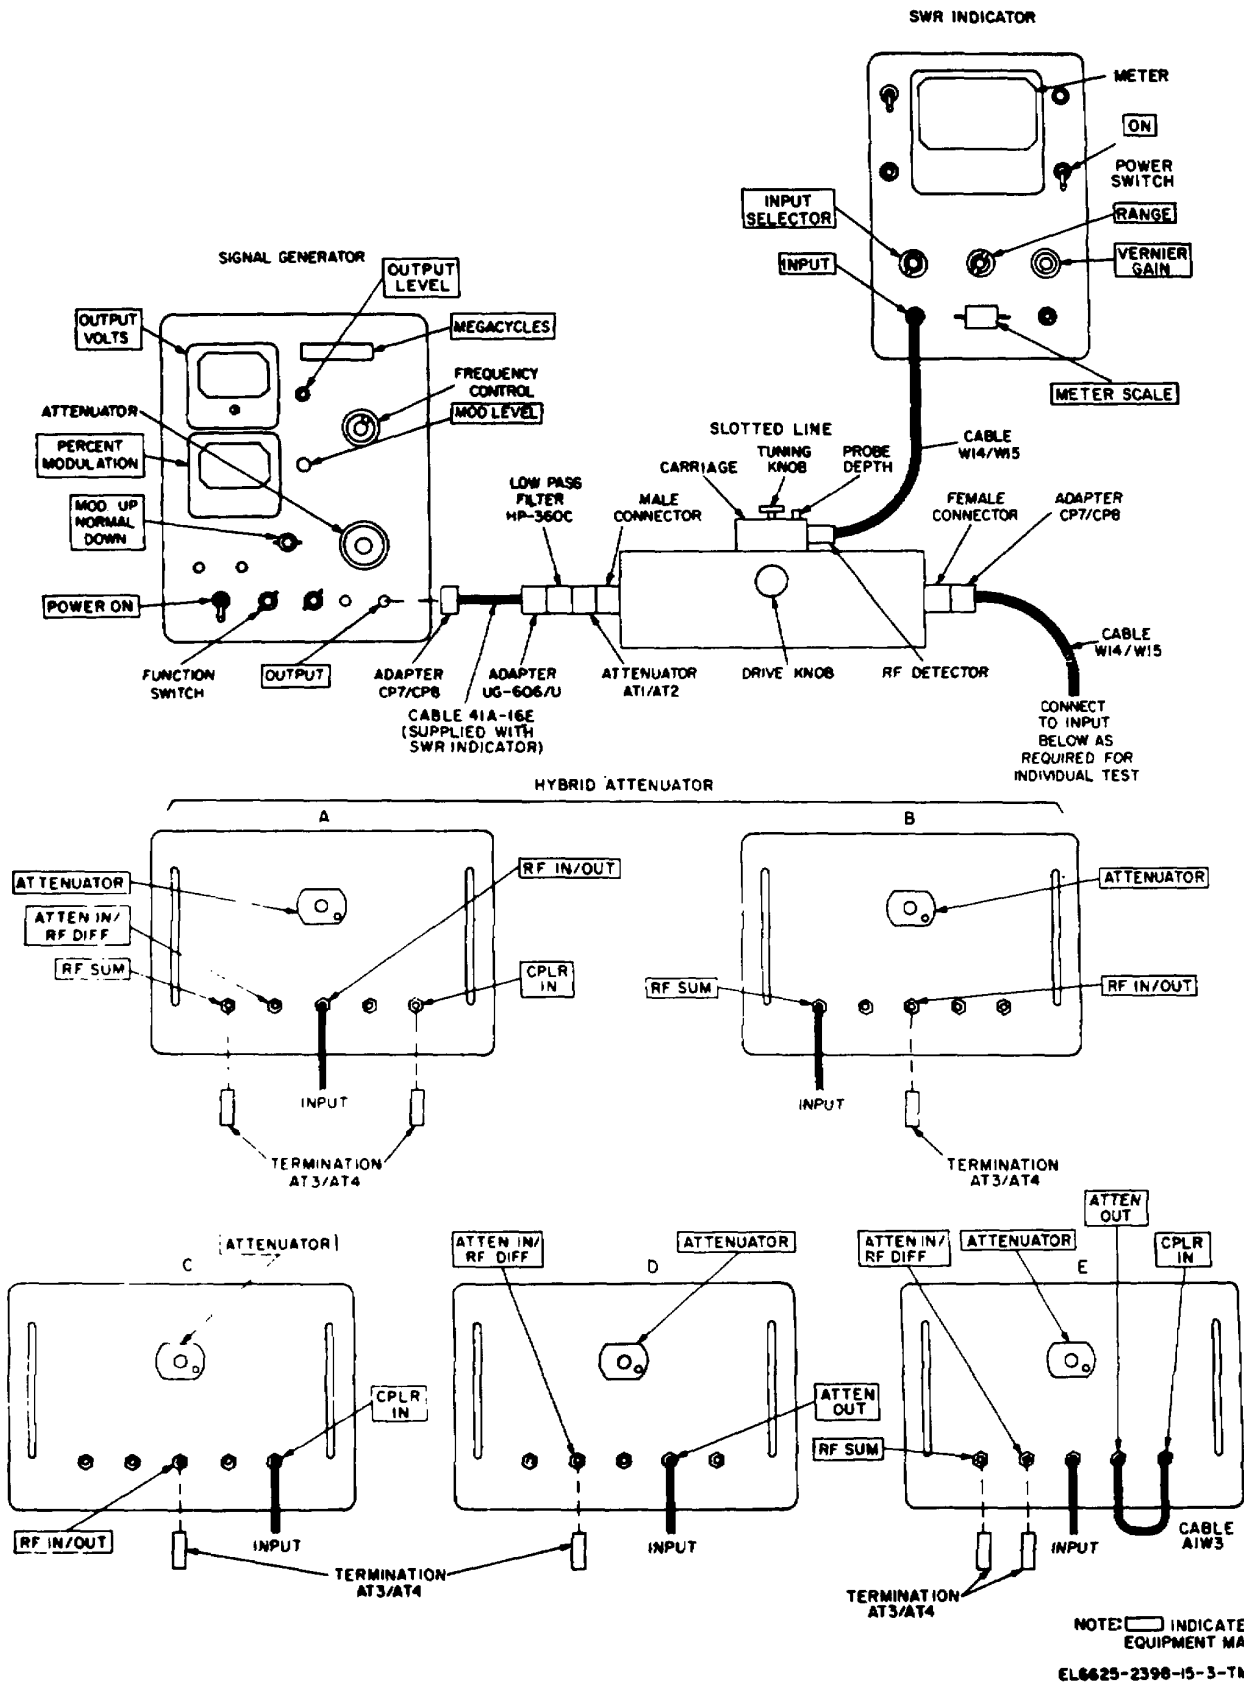

Figure 6-5. Hybrid attenuator VSWR, test connections
(fig. 6-5)
(1) On the signal generator, set the MEGACYCLES dial to 1030 with the frequency control knob. Set the function switch to 1000, the MOD. UP-NORMAL-DOWN to NORMAL, adjust the MOD. LEVEL control for a reading of 50 on the PERCENT MODULATION meter, and set the attenuator to 0dB (outer scale). Turn on the signal generator and allow a minimum of 20 minutes warm-up period before proceeding.
(2) With the METER SCALE set to NORMAL, and INPUT SELECTOR set to XTAL200KΩ, turn on the SWR indicator and allow a minimum of 10 minutes warm-up period before proceeding.
(3) Terminate and connect the hybrid attenuator as directed in A of figure 6-5 (RF IN/OUT jack VSWR).
(4) Insert the crystal in the rf detector of the slotted line and turn the probe depth control fully clockwise. Adjust the slotted line tuning knob for a maximum indication on the meter of the SWR indicator.
(10) Terminate and connect the hybrid attenuator as directed in B of figure 6-5 (RF SUM jack VSWR).
(11) Repeat steps (4) through (9). SWR indicator meter must indicate less than 1.2 on the SWR scale.
(12) Terminate and connect the hybrid attenuator as directed in C of figure 6-5 (CPLR IN jack VSWR).
(13) Repeat steps (4) through (9). SWR indicator meter must indicate less than 1.5 on the SWR scale.
(14) Terminate and connect the hybrid attenuator as directed in D of figure 6-5 (ATTEN OUT jack VSWR). Set ATTENUATOR control to 0 (zero).
(15) Repeat steps (4) through (9). SWR indicator meter must indicate less than 1.5 on the SWR scale.
(16) Terminate and connect the hybrid attenuator as directed in E of figure 6-5 (hybrid attenuator VSWR). Set ATTENUATOR control to 0 (zero).
(17) Repeat steps (4) through (9). Standing wave ratio indicator must indicate less than 1.6 on the SWR scale.